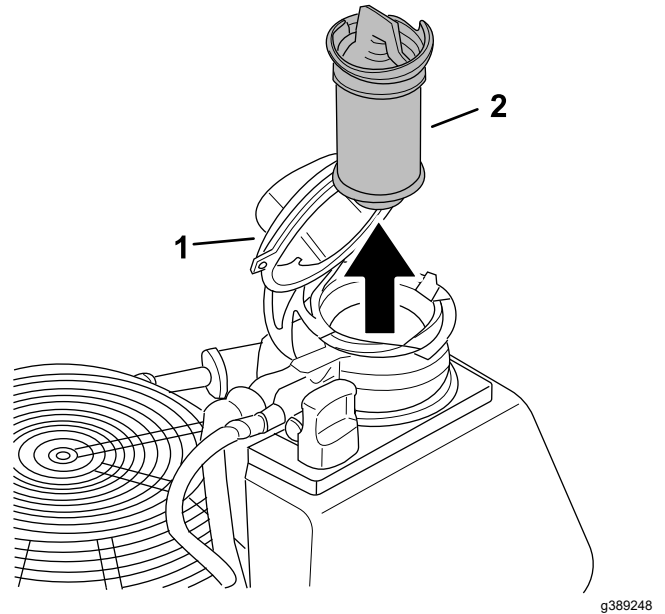

Figure 48
9. Remove the engine-oil filter (Figure 48).